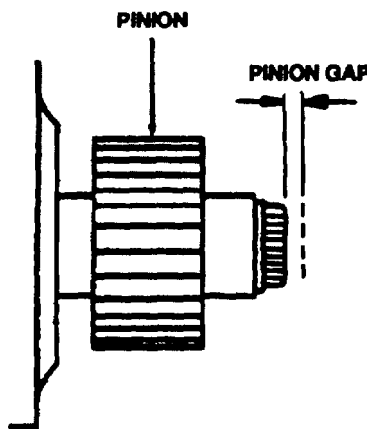

FIGURE 3-26. Checking Pinion Gap
- n. Install solenoid (1) and secure with screws (2).
- (1) Connect a 24 VDC power source positive lead to terminal 'S' on solenoid and negative lead to starter frame.
- (2) Apply power to solenoid and pinion gear will shift.
- (3) Disconnect terminal 'M' wire to stop pinion from rotating.
- (4) Gently push pinion shaft towards solenoid and measure amount of travel. Refer to FIGURE 3-26. Pinion gap should be 0.0118 to 0.787 in. (0.3 to 2.0 mm).
- (5) Adjust gap by increasing or decreasing number of fiber washers between solenoid and front bracket. Increasing number of washers decreases gap and decreasing number of washers increase gap.